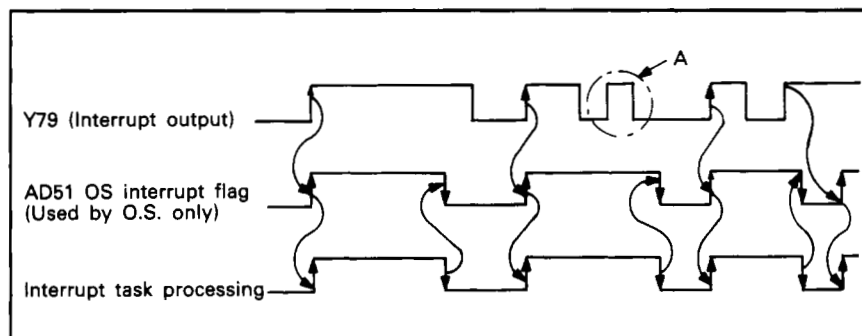

Fig. 7.6 Timing Chart
- (1) Any interrupt signal given to the AD51 while an interrupt program is running (i.e. interrupt flag is ON) will be ignored (See area A in Fig. 7.6.)
- (2) Only one task may be specified as "interrupt start". Setting any more generally leads to ORST error.